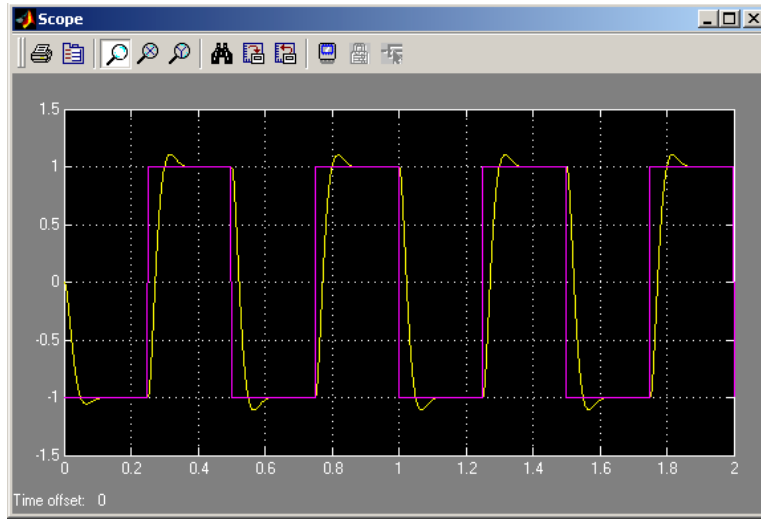

Figure 2.3: Simulation Results of 2^{nd} Order System for Square Wave Input
- Run the simulation by pushing the triangular play button and adjust the display of the Scope with the autoscale option. You will obtain a plot similar to the one shown in Fig 2.3.